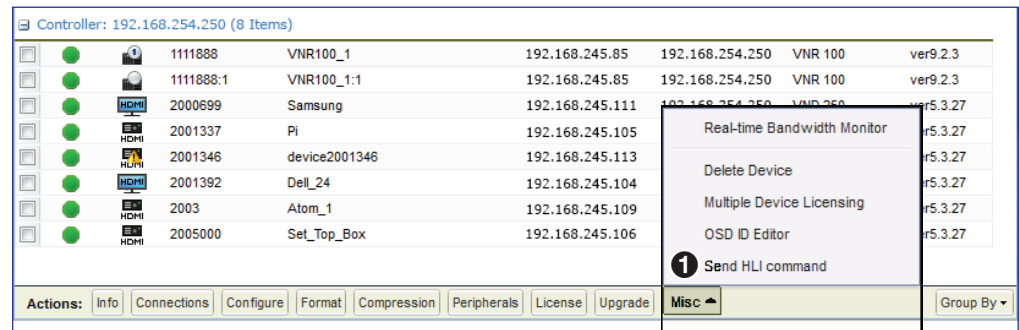
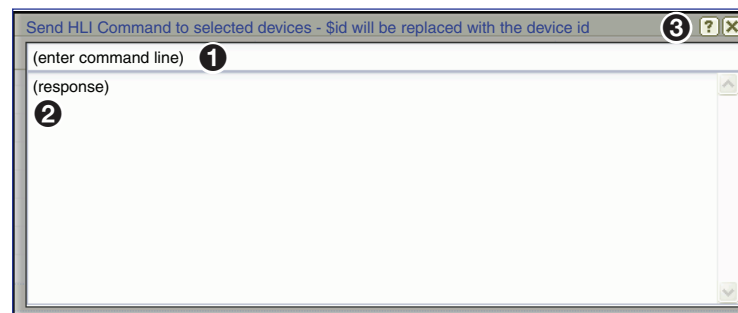

Figure 168. Misc Menu — Select "Send HLI Command"
Figure 169. HLI Command Window
A menu list opens (see figure 168).
4. Select **Send HLI command** (see figure 168, ①). A HLI command window opens (see figure 169).
5. To send a command, click in the **(enter command line)** text box (see figure 169, ①), and enter the desired HLI command.